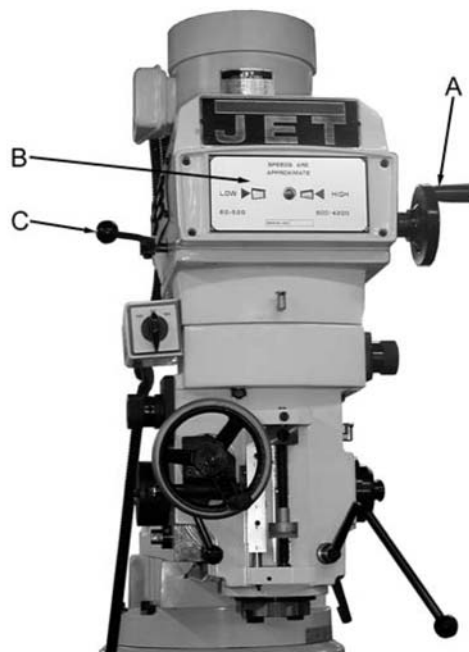

Figure 3
- A. **Variable Speed Control** (A, Fig. 3) - located on the right side of the head assembly. Turn clockwise or counter-clockwise to adjust spindle speed.
- B. **Variable Speed Dial Indicator** (B, Fig. 3) - located on the front of the head assembly. Indicates selected speed in high or low range.
- C. **Spindle Brake** (C, Fig. 3) - located on left side of the head. Move in either direction to stop spindle once power has been turned off.